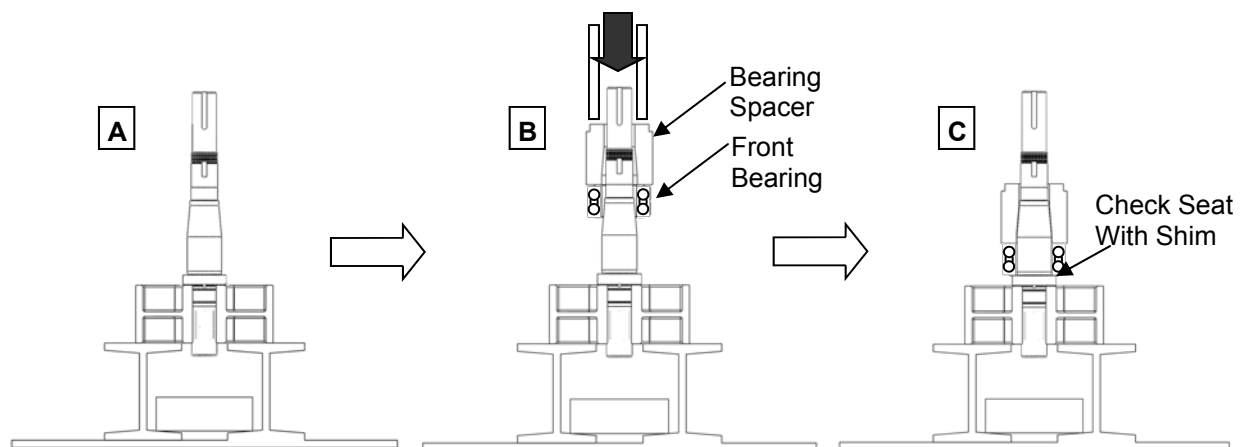

Figure 49: Pressing Front Bearing onto Shaft
1) Clean all reusable parts prior to reassembly. Apply a light coat of lubricant on the shaft area where the front bearing will sit. Position the shaft upright in the press with the rotor end facing down (Figure 49, A). Ball bearings are used on all models except for the QL 400 series. For the QL 400 series it is important to not interchange any parts of the bearing assembly since all bearings are manufactured as sets and assembled to have a precise overall length. Open the new front bearings and place it over the shaft along with the bearing spacer (Figure 49, B). Make sure the bearing and spacer are aligned before pressing them on. Using a sleeve that rests on the bearing spacer and rides over the shaft, press the bearing on until it seats against the shaft shoulder. A shim can be used to ensure that the bearing is fully rested on the shaft shoulder (Figure 49, C).